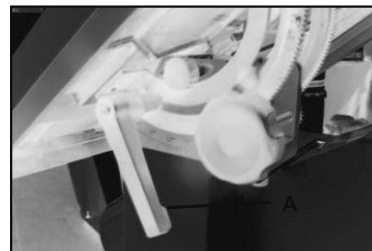
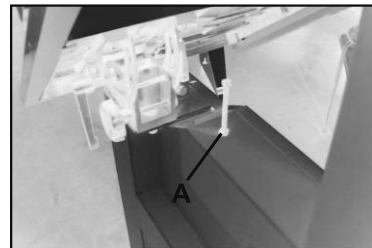

Fig. 4
Fig. 5
- Loosen the lock knobs (A, Fig. 4) and tilting table left until it rests against table stop bolt M8.(A, Fig. 5)
(fig.4)